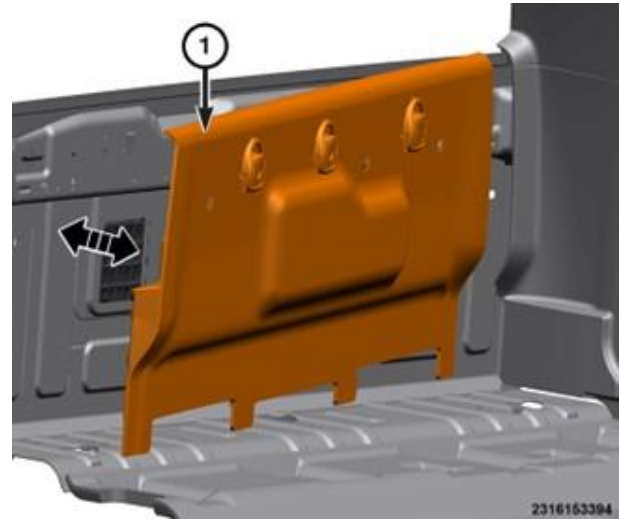

Figure 17 – Rear Cab Back Trim Panel
11. Remove the rear cab trim panel from vehicle (Figure 17).
19. Install the rear cab trim panel to the vehicle (Figure 17).